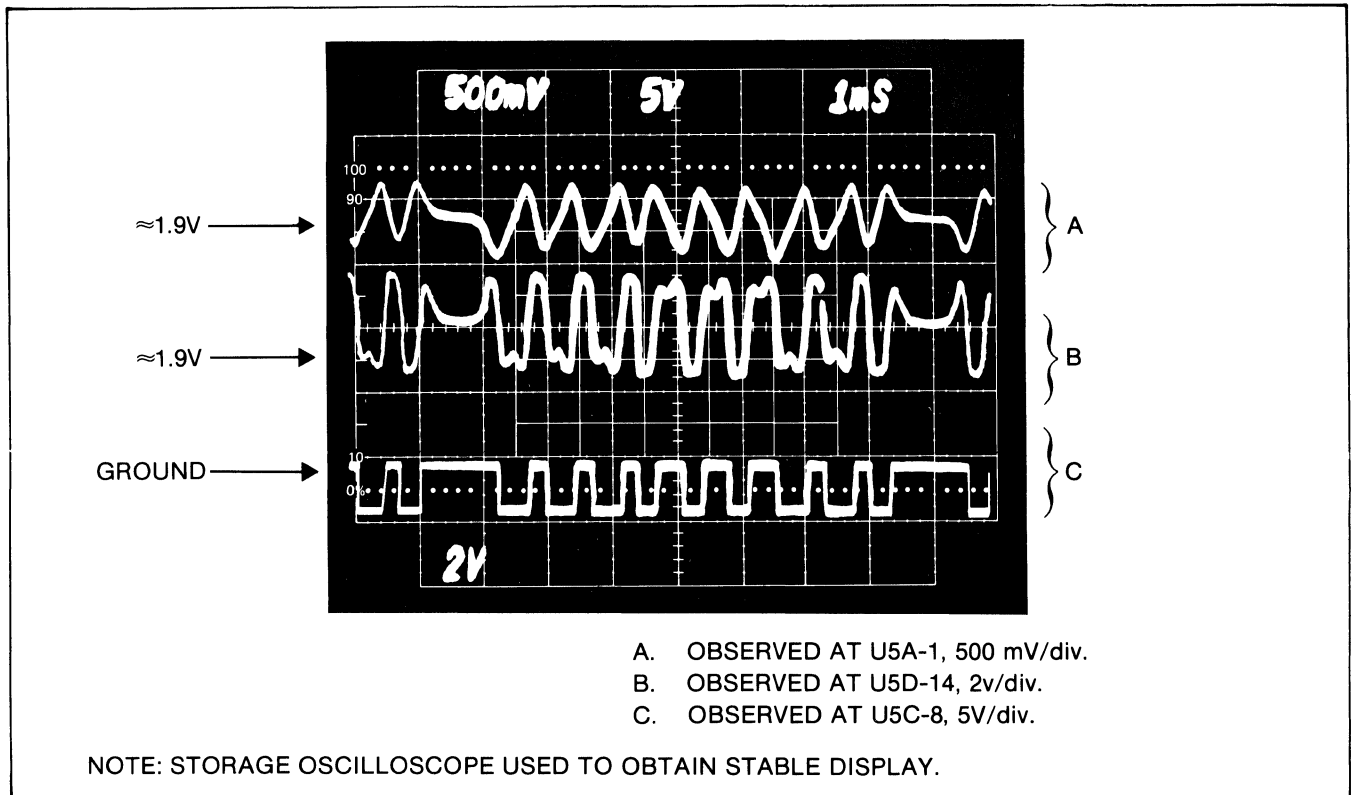

Figure 4-11. Read Test Waveforms
4. Using a tape with data already recorded and a storage type oscilloscope, verify the waveforms at U5A-1, U5D-14, U5C-8 and U5B-7 against those shown in Figure 4-11. Be sure to note the voltage levels. Be sure the Head(+) (A4J2-3) and Head(-) (A4J2-4) wires are connected. If the proper signals are not present, a faulty U5 or an open resistor is indicated. Be sure to check that the signal at U5B-8 is also present at U1-39.